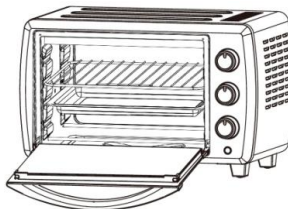

Fig. 4
- Where to fit the baking tray and rack – See fig 4